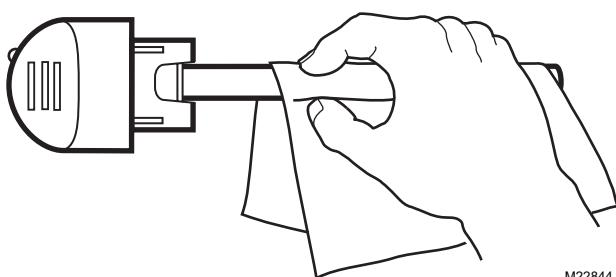

Fig. 14. Clean glass with soft cloth.
4. Holding the lamp handle, wipe the lamp glass using a soft cloth dampened with glass cleaner. If you touch the lamp glass with your hands, be sure to clean the area of any oils left from bare hands. See Fig. 14.